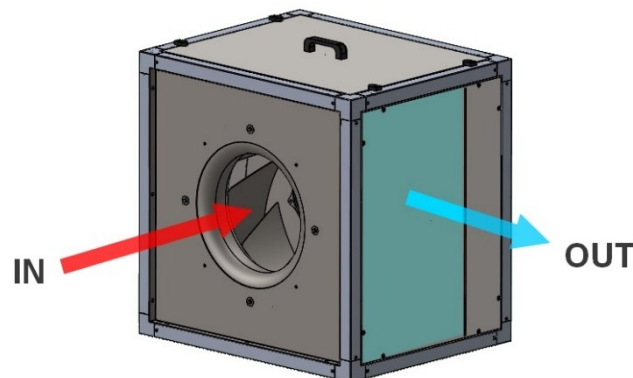

Figure1
- Connect the extraction channel to the front opening. Connect the extraction channel to a side panel in the area delimited by the tape (see figure 1).